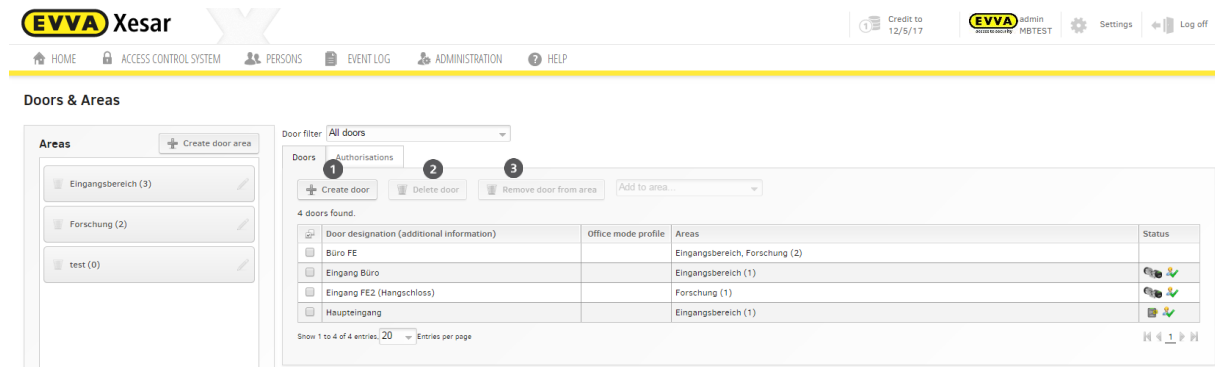

Figure 77: Managing doors
- Click the **Create door** field ❶ and proceed as described in Section (
- Creating doors; Figure 77: Managing doors).
You can also delete doors in this menu item (Figure 77: Managing doors).
Proceed as follows to delete doors from an area (Figure 77: Managing doors):